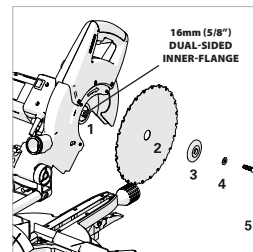

Fig. 40g
- Install the new blade (**Fig. 40g**). Make sure the rotation arrow on the blade matches the clockwise rotation arrow on the upper guard.